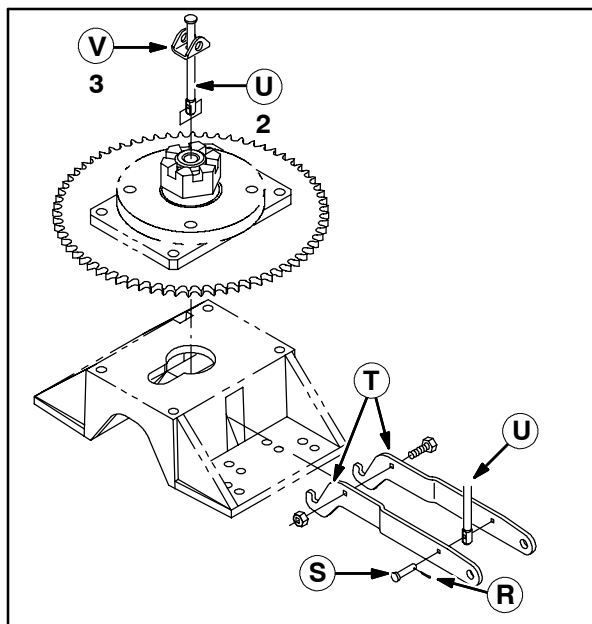
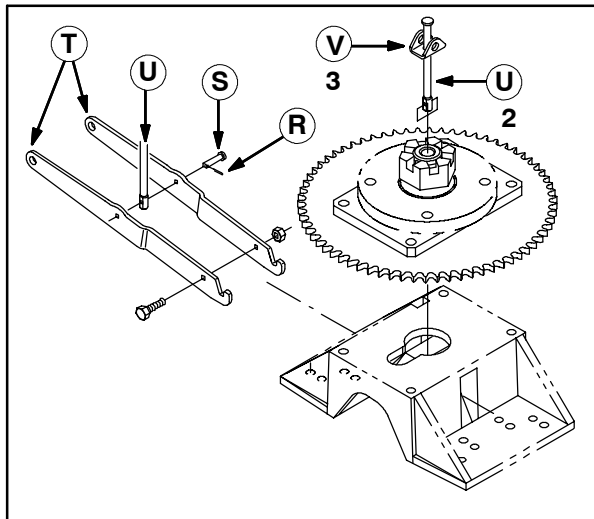

FIG. 11-Older Machines
FIG. 12-Newer Machines
16. Remove the cotter pin (R) and clevis pin (S) securing the left and right brake arms (T) to the upper brake link (U). Set aside the cotter pin and clevis pin. Refer to Fig. 11 and Fig. 12.
17. Remove the upper brake link (U) and brake channel (V) from the lower drive assembly. Discard the upper brake link and brake channel. Refer to Fig. 11 and Fig. 12.
18. Slide the brake channel (3) onto the brake link (2). Refer to Fig. 11 and Fig. 12.
19. Insert the brake link (2) into the lower drive assembly. Refer to Fig. 11 and Fig. 12.
20. Use clevis pin (R) and cotter pin (S) to secure the brake link (2) to the left and right brake arms (T). Refer to Fig. 11 and Fig. 12.